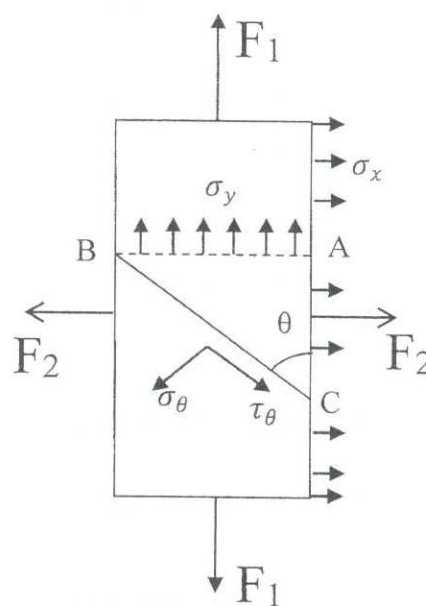

Figure Q4
- Q4. Consider a Mechanical component under direct load F_1 and F_2 giving rise to stresses σ_y , and σ_x , vertically, and horizontally as shown in Fig. Q4.
c) In a popular testing method (mechanical property) sample is loaded as Fig. Q4.